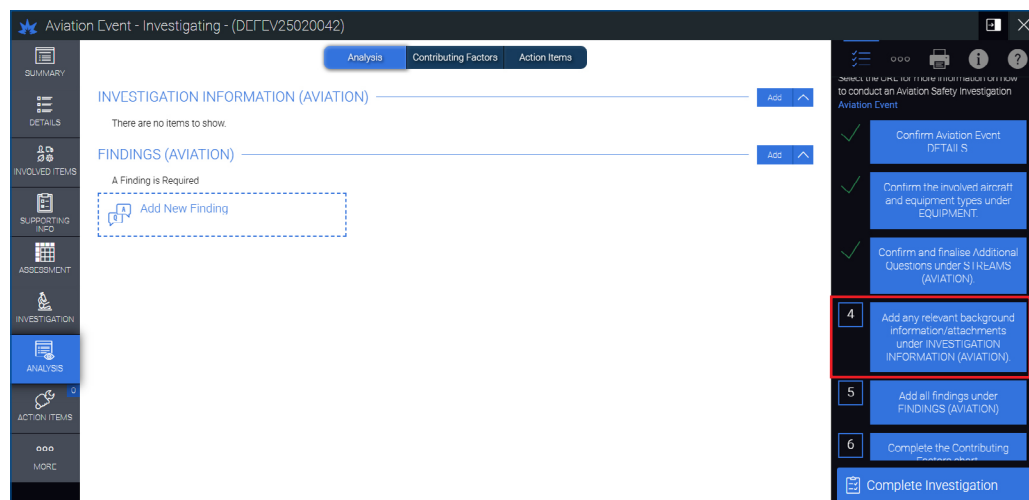

Figure 41: Analysis page
Select the Investigation Information (AVIATION) checklist item to access the 'Analysis' page (**Figure 41**). The Analysis page is used to record information collected during the investigation process (**Step 1: Gather information and Step 2: Organise information**).
**Standard method.** Add findings through the Analysis tab on the 'Analysis' page (**Figure 41**):